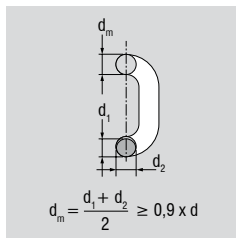

Fig. 11: Thickness loss of chain link
- Average thickness loss of the chain link anywhere in the device by > 10 % (Fig. 11)